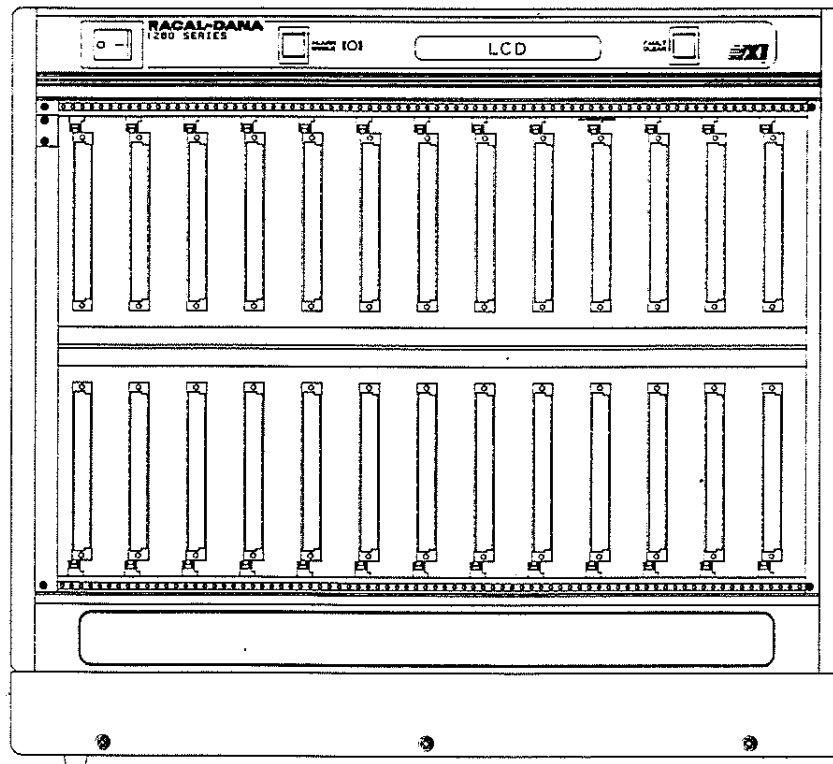

Figure 1-6, Intelligent System Monitor, Front Panel View
1.4.2.5.2 The intelligent system monitor option adds a piezo electric element, a latching pushbutton switch, a momentary contact switch and a 16-character LCD display to the top, front panel of the mainframe. The option has an IEEE-STD-488 (and address switch) connector located on the rear of the chassis, and appropriately located airflow and temperature sensors. The electronics to drive the front panel and run system monitoring functions are located on top of the chassis power supply chamber. A front view of the panel is shown in Figure 1-6.